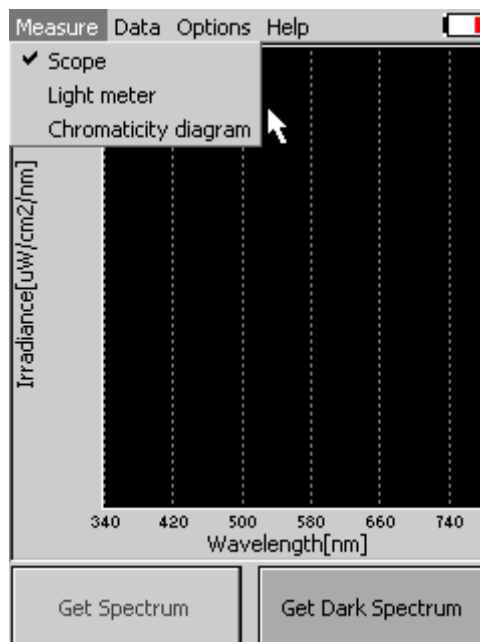

Fig. 5 Selection of type of measurement.
- In the opening screen select **Measure** and the desired function (Fig. 5)